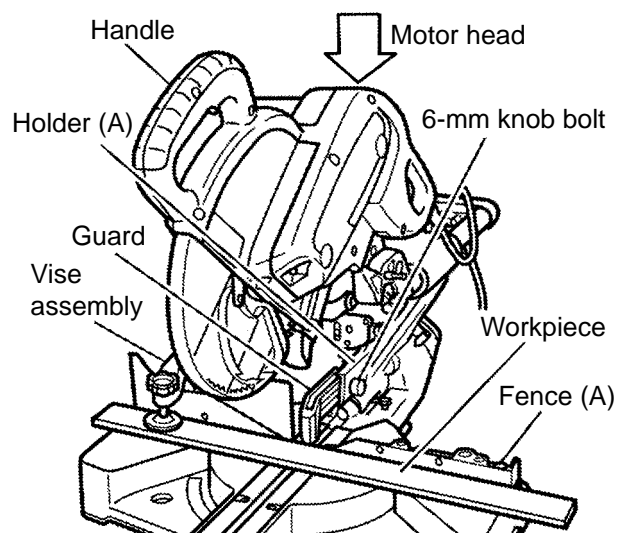

Fig. 28
(1) Groove cutting in guard and table insert
There is a plastic guard mounted in holder (A) (Fig. 28). To allow accurate grooving of the guard with the saw blade that is actually going to be used on the machine, the groove is not precut at the factory. Please follow the procedures below to make a groove in the guard. In order to cut a groove in the guard at a constant speed, press a workpiece of 35-mm (1-3/8") square against the fence and clamp it in position with the vise ass'y. Loosen the 6-mm knob bolt and press the guard against the workpiece then secure it in position. Slide the motor head up to the upper limit position. Turn on the switch, and after the saw blade has reached sufficient rotation speed, press the handle down slowly and slide it as far as it will go to cut a groove in both the guard and the workpiece.